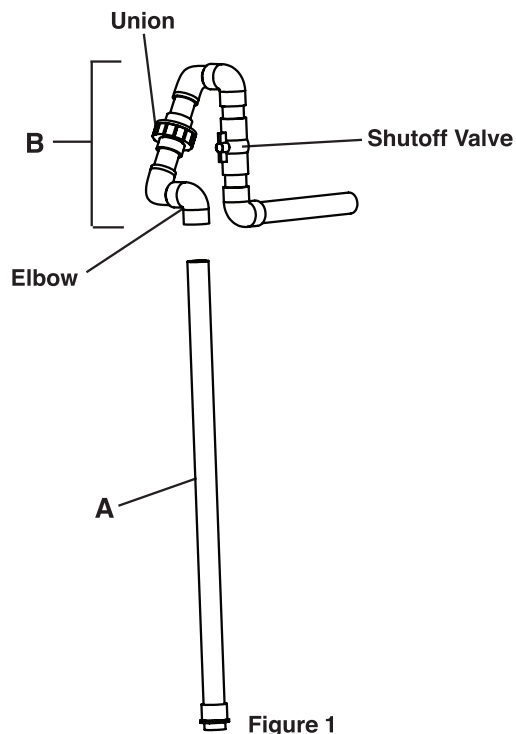

Figure 1
**Step 4:** Attach the preassembled 36" PVC pipe with pipe adapter (Figure 1, part A), pipe adapter end first, thread onto the pump. Lower the pump into the pump chamber of the housing. Note: The chamber is designed to handle either one or two STEP pumps. A single pump can be located in either side of the chamber. Place a mark on PVC pipe "A" at the height necessary to be below frost line, per local code.
**Step 5:** Position the rest of the discharge kit (Figure 1, part B) with the open end of the elbow beside the pipe marking. This determines the discharge exit location on the riser. Mark the location where the discharge pipe will exit on the riser.
**Step 7:** Cement the remaining loose joints in the discharge kit (figure 1, part B). Several joints in the discharge kit are left uncemented at the factory to allow adjustments during installation. Verify that all joints are properly cemented and leak free before putting the filter into service.